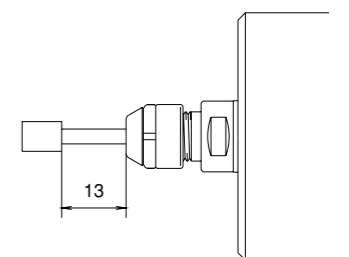

Fig.11
- Do not exceed 13mm overhang for mounted grindstones. In case overhang must exceed 13mm reduce the motor speed in accordance with Fig.11.